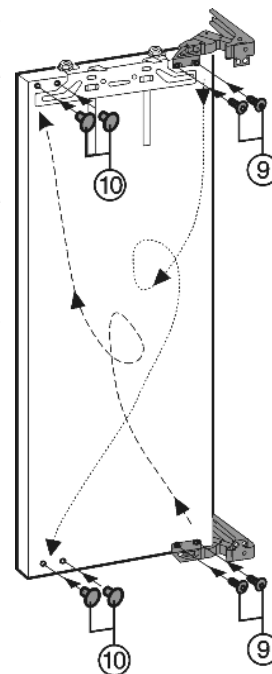

Fig. 3
- ▶ Unscrew Fig. 3 (9) the hinges from the door and swap them over.
- ▶ Close off the now unused holes with plugs Fig. 3 (10).